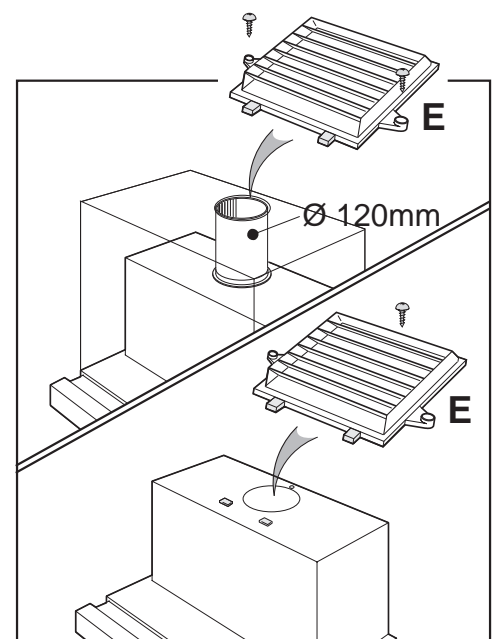

Fig. 3
- When installed, the hood must be not less than 43 cm. above electric burners or 65 cm. above gas or mixed-fuel burners. (Fig. 3).
The baffle **E** which can be fastened to outlet hole using the screw provided (Fig. 3).
- The baffle E which can be fastened to outlet hole using the screw provided (fig. 3).